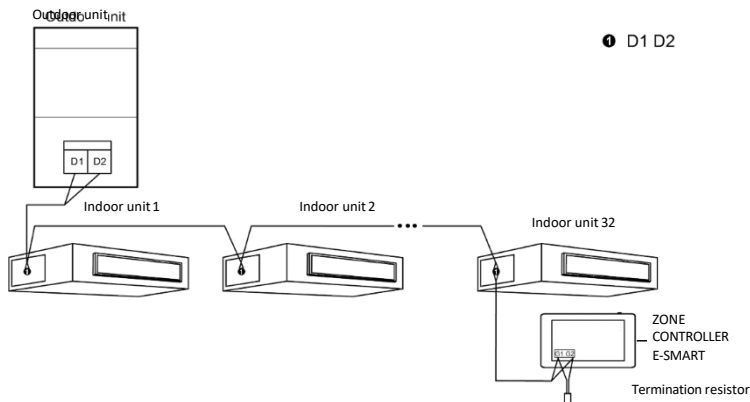

Fig. 3.4 Centralized controller connected to the UI network
- ① The intelligent centralized controller is compatible with multi-VRF units and can be connected to the UI network, the UE network, or the mode converter network. A single centralized controller can control up to 16 outdoor unit systems and up to 32 indoor units.
- ② If the centralized controller is to be connected to the network of indoor units, make the connections as shown in Fig. 3.4. The controller can be connected to any indoor unit in series, i.e., by connecting the controller's G1 and G2 ports to the D1 and D2 ports using the communication wires. When the controller is connected to the terminal unit of the indoor unit network, a corresponding resistor must be added to the communication wires on ports G1 and G2.